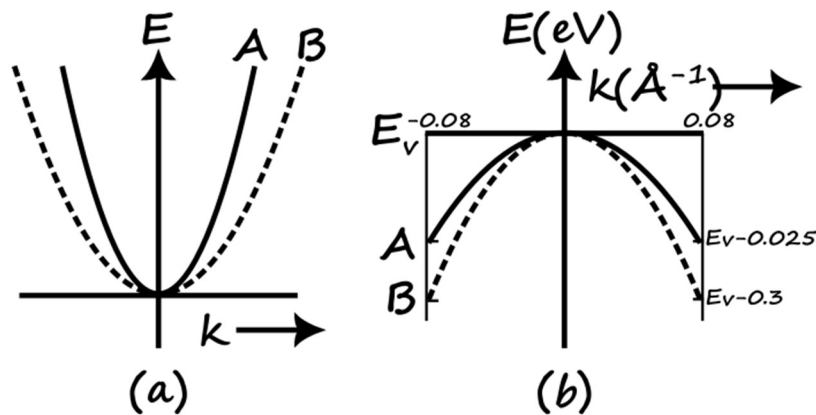

Figure 1: (a) Conduction and (b) valence bands of materials A and B.
- Two possible conduction bands are shown in the E vs k diagram given in Figure. 1(a). State which band will result in the heavier electron effective mass; state why [BT 2][2 M]
- Figure. 1(b) shows the parabolic E vs k relationship in the valence band for a hole in two particular semiconductor materials. Determine the effective mass (in units of the free electron mass) of the two holes. [BT 3][4 M]